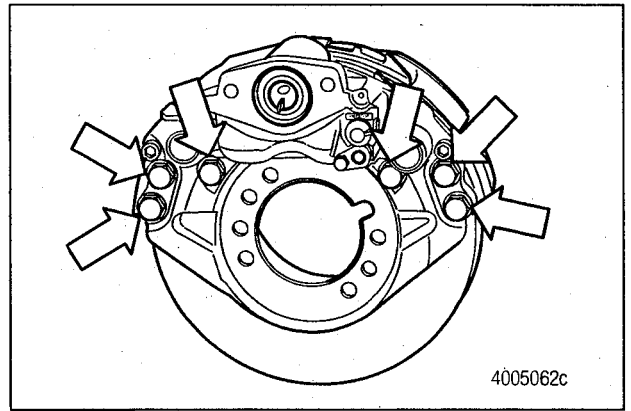

Figure 4
2. Use a 30 mm socket wrench or extension adapter (Meritor tool number MST2255001) to remove the six carrier bolts and washers. Carefully remove the caliper assembly from the axle. Figure 4.